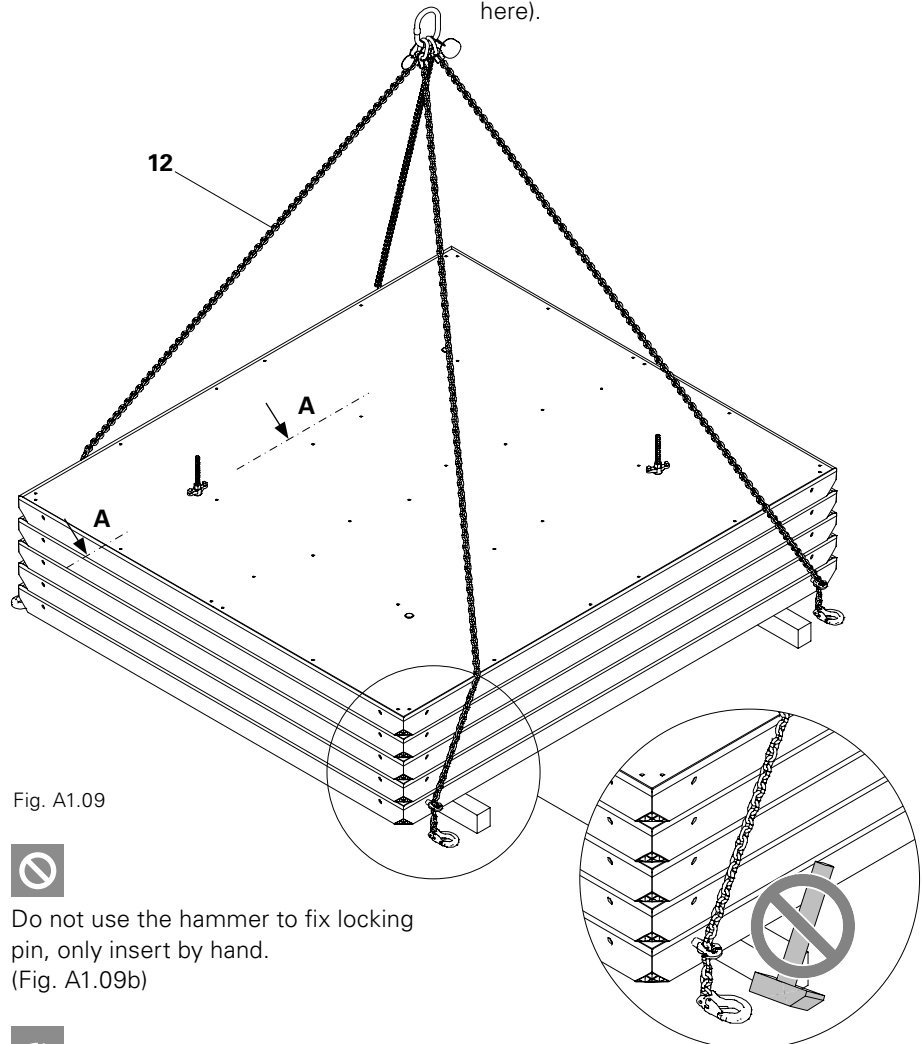

Fig. A1.09
(Fig. A1.09)
4. Insert second tie rod (30) into the external tie hole which is positioned diagonally to the first tie rod. (Fig. A1.09)